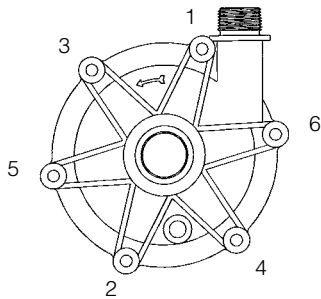

Figure 3
5. Place wet end assembly (comprised of items 1-9) into the motor adapter (item 11). Grasping the barrier at opposite bolt tabs, carefully lower the wet end assembly into the motor adapter/drive assembly. Line up the tabs of the wet end between the tabs on the motor adapter to avoid pinching fingers. Once seated, rotate the wet end until bolt holes line up.
6. Align mounting holes and install 6 mounting screws and washers (items 12A, 12B & 12C) from hardware package. Hand tighten screws using pattern shown in Figure 3.
1. If possible, set motor on fan cover with drive magnet assembly facing up. Place the second stage impeller assembly (comprised of items 2 and 8) into the barrier (item 9). Grasping the barrier at opposite bolt tabs, carefully lower the barrier assembly into the motor adapter (item 11). Line up the tabs of the barrier between the tabs on the motor adapter to avoid pinching fingers. Once seated, rotate the barrier until the bolt holes line up.
2. Install the housing o-ring (item 4) on the barrier. Lubricate the o-ring with a compatible lubricant to facilitate o-ring installation.
3. Install the second stage impeller housing (item 7) onto the barrier being careful not to dislodge the o-ring. Align the bolt hole tabs and gently press together (bolt clearance alignment is critical).
4. Install and lubricate the diffuser o-ring (item 6). Install the diffuser assembly (item 5) making sure to keep bolt clearance alignment straight and making sure not to dislodge the o-ring.
5. If the first stage impeller drive shaft (item 3 ) was replaced, reassemble it to the impeller assembly by matching the three tabs on the end of the drive shaft with the three recessed slots in the impeller assembly (item 2) and press together.
7. Install and lubricate the housing o-ring. Coming straight down, gently place the impeller housing (item 1) onto the pump with the ceramic front spindle support sliding into the bushing on top of the first stage impeller assembly (items 2 and 3). Orient the housing with the directional arrow on top, the drain boss location on the bottom and with the mounting holes aligned. Install the six mounting bolts, washers, and lock washers (items 12A, 12B, and 12C). Make sure the housing o-ring is not dislodged or pinched. Hand tighten the mounting bolts to pull the pump together using the pattern shown in figure 3.
8. After the housing is tightened down, insert a screwdriver into the suction and push down on the front of the first stage impeller assembly (Note: Do not press on gray thrust ring) to completely set the impeller drive shaft (item 3) into the second stage impeller (item 8). Push firmly on the three areas separated by the spindle support arms in the suction. Rotate the motor fan to verify nothing is rubbing.
9. **56C frame pumps.** Carefully slide the pump assembly over the drive magnet assembly. Orient the discharge port to either the 12 or 9 o'clock position. Make sure the rabbet on the motor is fully seated into the motor adapter (item 11). Align the bolt holes in the motor adapter and the motor. Install 4 bolts and washers (items 14A,14B,14C) and tighten securely.